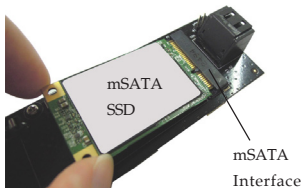

Figure 3a
1. Insert the mSATA SSD's mSATA interface into the controller's mSATA interface. See **Figure 3a**.